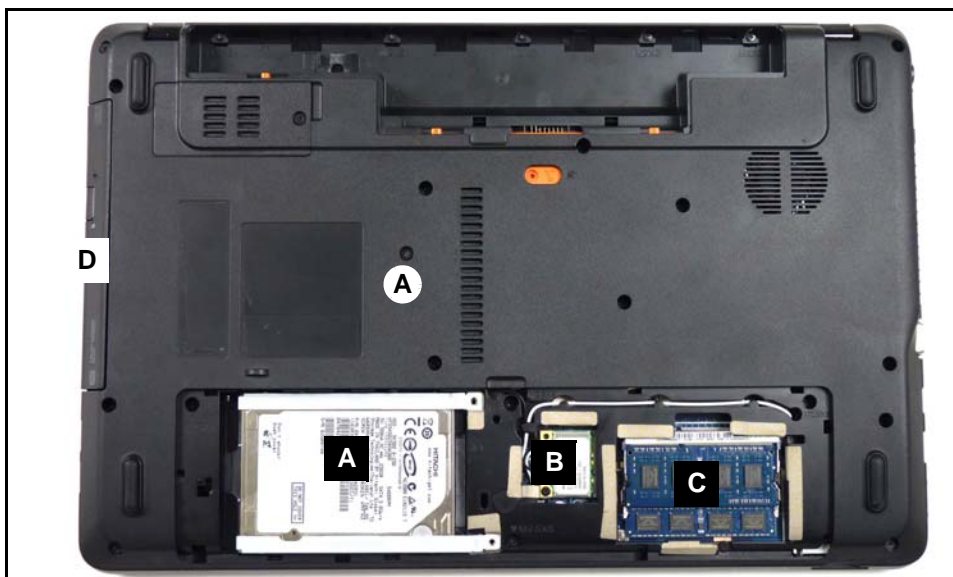
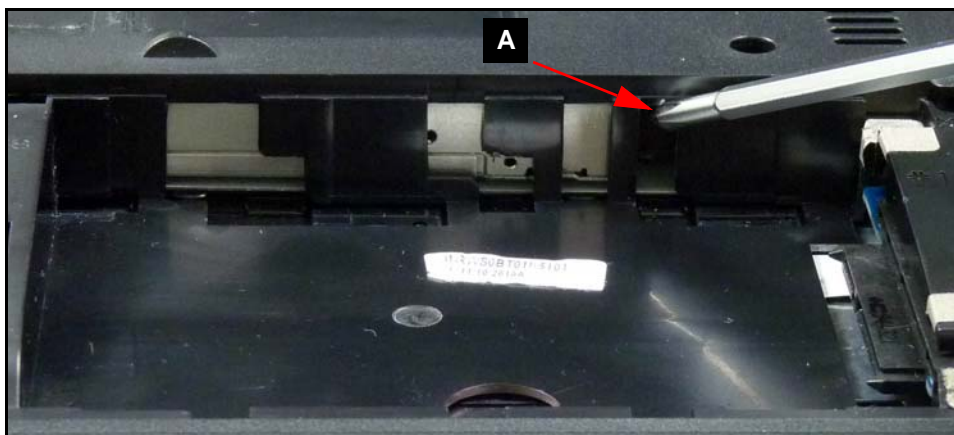
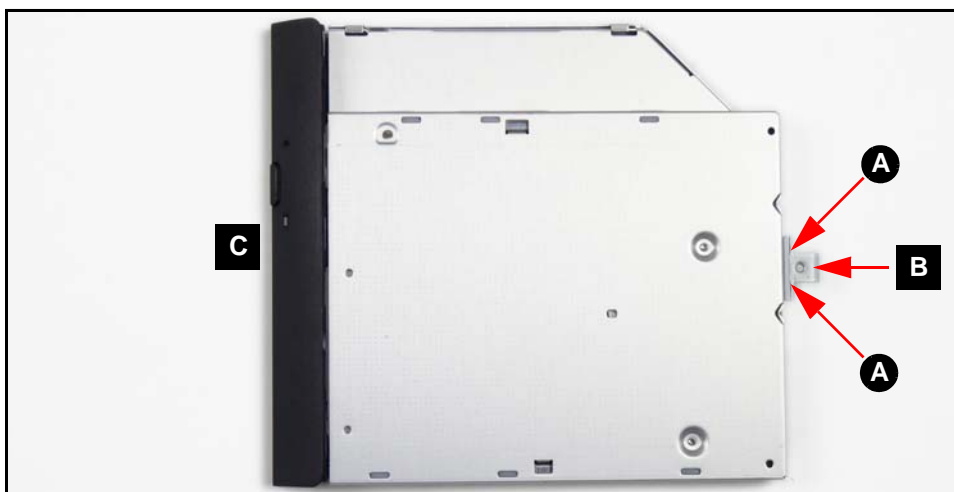

Figure 3-12. Lower Cover Overview with Base Door Removed
Figure 3-15. ODD Module in Lower Cover
Figure 3-16. ODD Module
1. Locate HDD module (A) on lower cover (Figure 3-12).
1. Place module into bay on lower cover. Refer to Figure 3-12.
1. Locate ODD module (D) on lower cover. Refer to Figure 3-12.
2. Remove screw (A) from lower cover.
3. To remove module, push from HDD bay (A) (Figure 3-15).
4. Remove two (2) screws (A) from ODD module and bracket (B) (Figure 3-16).
1. Install bezel (C) to module. Refer to Figure 3-16.
2. Install bracket (B) to module.
3. Install and secure two (2) screws (A).
4. Install module (D) in lower cover. Refer to Figure 3-12.
5. Install and secure screw (A) to lower cover.
1. Locate module (B) on lower cover. Refer to Figure 3-12.
1. Locate module (C) on lower cover. Refer to Figure 3-12.